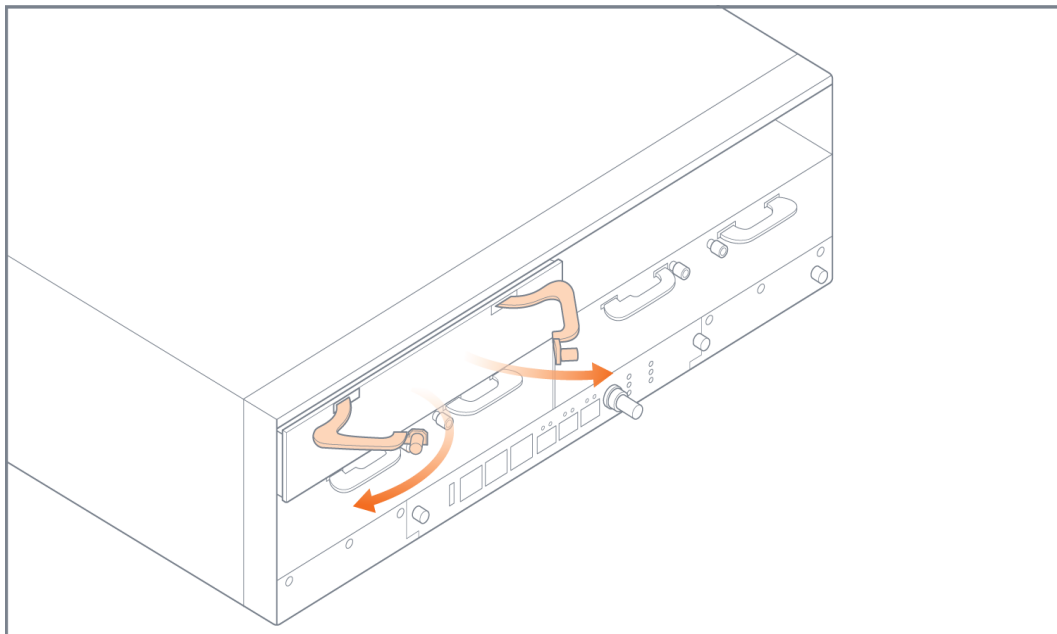

Figure 3-9: Filler Panel Levers
5. Open the levers on a filler panel as shown in Figure 3-9 on page 64.